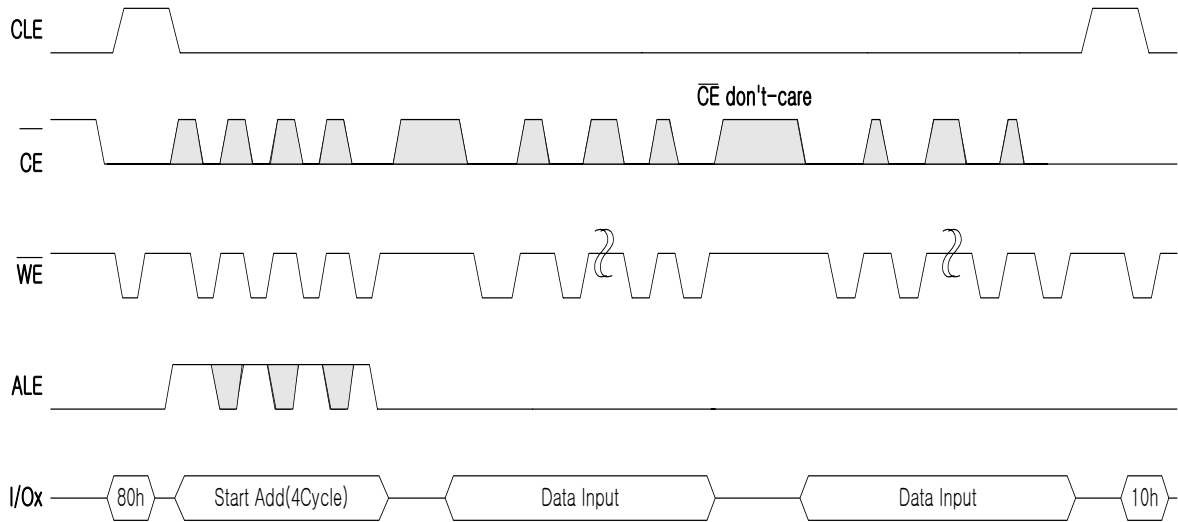

Figure 32. Program Operation with $\overline{\text{CE}}$ don't-care.
- Note: (1). The time to Ready depends on the value of the pull-up resistor tied to the Ready/Busy pin. See Figures 32, 33 and 34.
Figures 32, 33 and 34 show the electrical characteristics for the Ready/Busy signal. The value required for the resistor R_p can be calculated using the following equation: